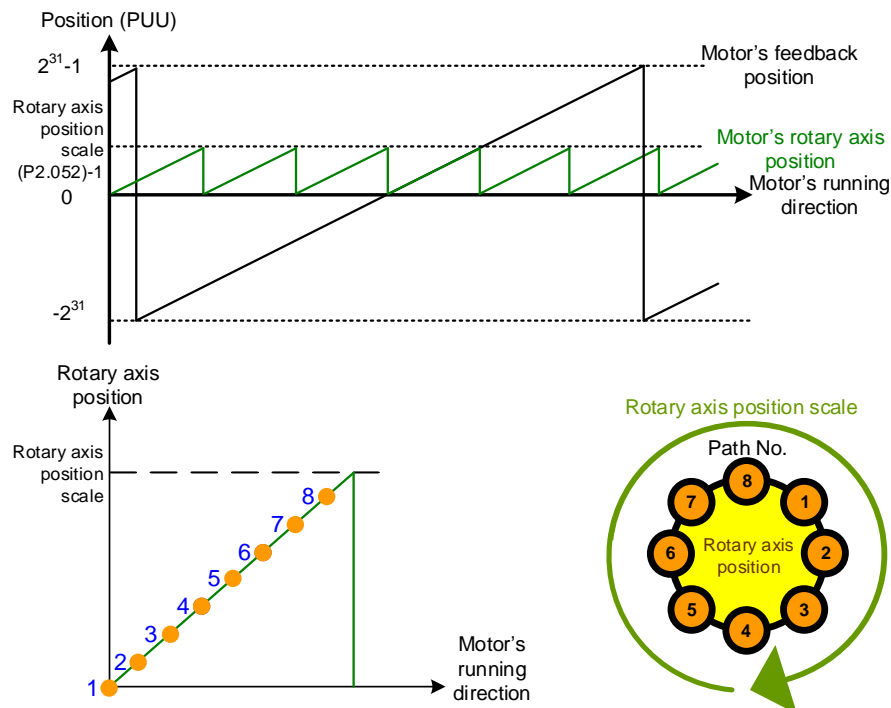

Figure 7.1.3.6.1 Rotary axis position in PR mode
- DIR sets the rotation direction with options of forward rotation (always runs forward), reverse rotation (always runs backward), and the shortest distance. The movement is illustrated in Figure 7.1.3.6.4.